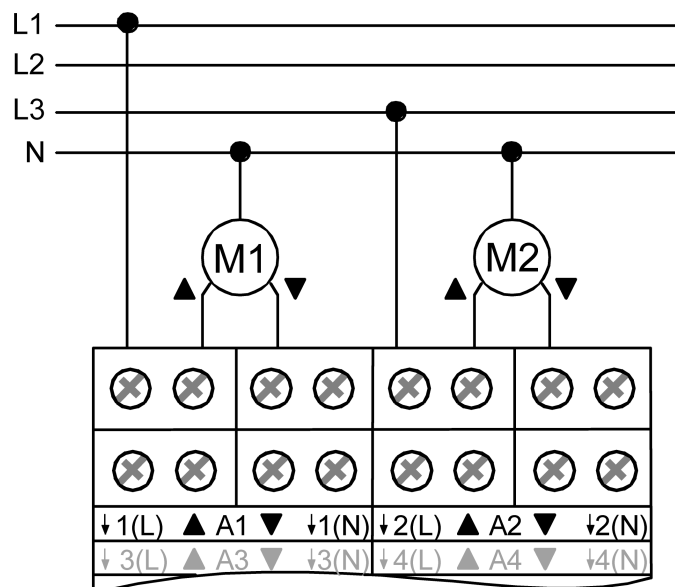

Figure 3: Electrical connection for 230 V drives
- Connect the drives as shown in the wiring example (Figure 3).